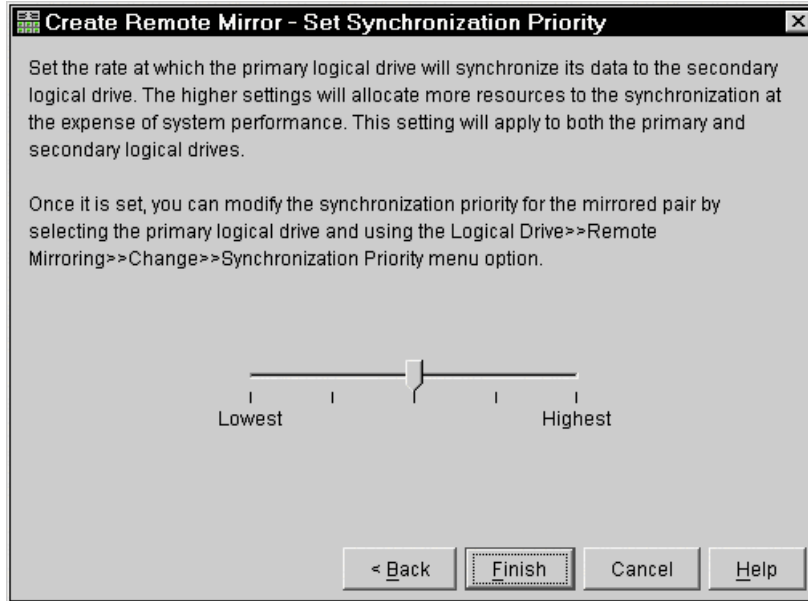

Figure 6-21 Set Synchronization Priority window
5. In the Set Synchronization priority window (Figure 6-21), select the Synchronization Priority Level. Click **Finish**.
3. The Change Synchronization Priority window opens (Figure 6-21 on page 212). The primary logical drive chosen in the first step is selected by default in the Select logical drives selection area. Select one or more logical drives.